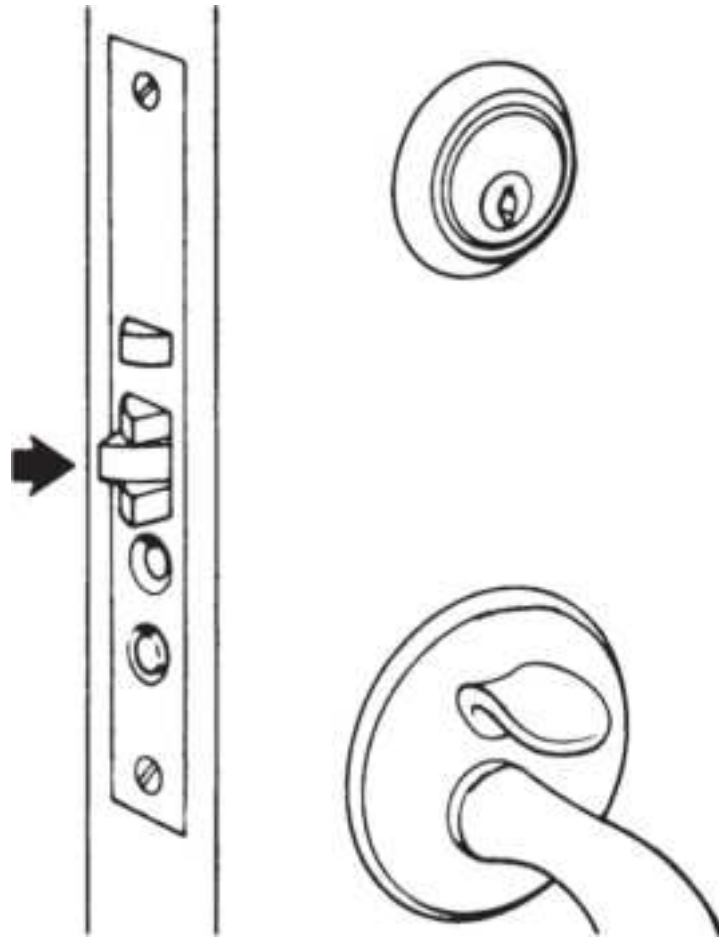

**Figure 13.28** Checking latchbolt.
***Problem 1: With door open, latchbolt doesn't extend or retract freely.*** Check for binding against the rose. Adjust the knob. Loosen the roses or trim on the door. If the bolt now operates freely, the roses or trim must be realigned. A *knob aligning tool* is recommended. Check installation templates for proper position (Fig. 13.28 ). If the bolt does not operate properly with trim and roses loosened, remove the lockset from the door. If the lockset operates properly when removed from the door, use a chisel to make the mortise larger so the lockset enters freely.